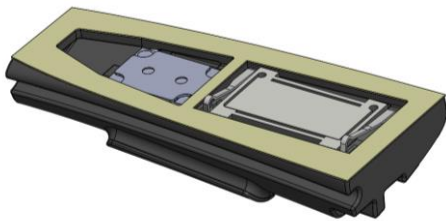
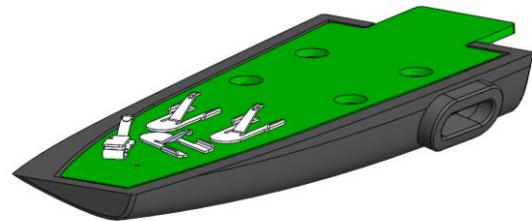

Figure 1: Audio module inside – speaker part.
Figure 2: Audio module inside – PCB part.
- Audio module housing parts include part A, holding the speakers including gaskets and glue (Figure 1), and part B, holding the PCB (Figure 2).